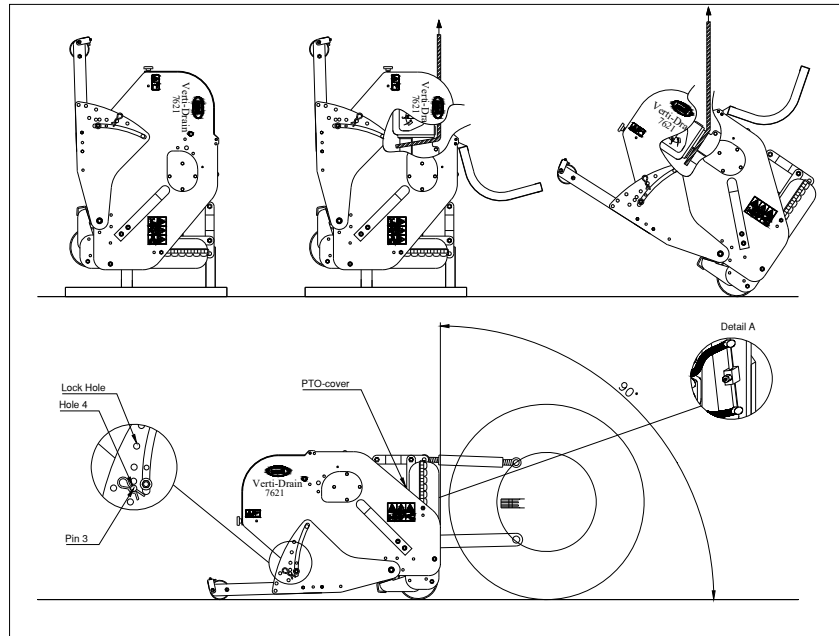
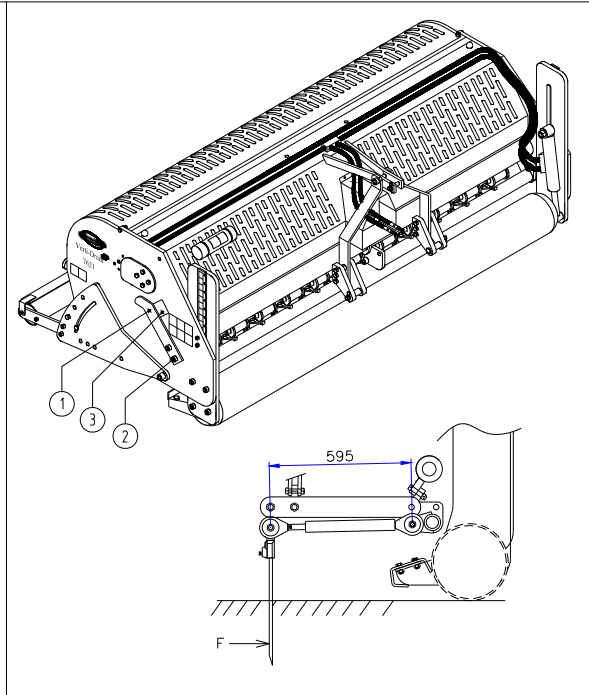

Fig. 8
Fig. 12
The machine is standing vertically on the pallet. To remove the pallet and lay the machine horizontally, carry out the following steps (see fig. 8):
All pins can simultaneously be adjusted with one handle (1), which is located on the side of the machine; see fig. 12. Lift the machine above the ground and loosen counter nuts (2) on both sides of the machine. Adjust the angle by turning the handle (1). The angle can be read on indicator (3). Then retighten counter nuts (2).
- @ At 90 degrees, the pins only go straight into the ground if the machine is correctly installed, see fig. 8. If this is not correct, force F can be produced, see fig. 12, which will damage the machine.